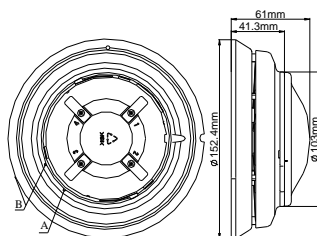

Fig. 1
Terminals of the flashing beacon base are shown in Fig. 1.
- 4 If the flashing beacon base comes with a cover, align the orientation mark on the cover to mark A of the flashing beacon base (Fig.1), and rotate the cover clockwise to B. If it's used as detector base, remove the cover and install the detector on it with the same method.